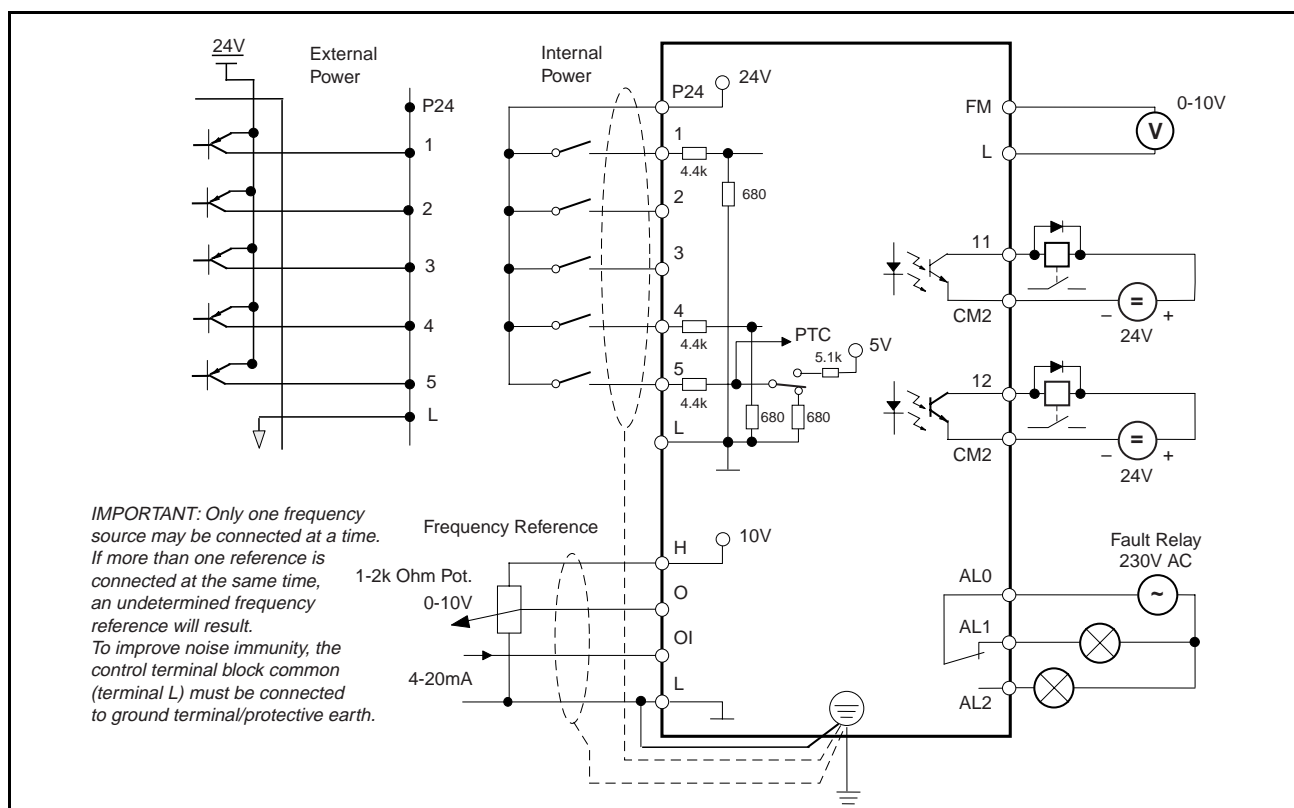

Figure 2.6 – Typical Control Terminal Connections
- If using transistor outputs 11 or 12 with an inductive load such as a relay, install a recovery diode parallel to the relay, as shown in figure 2.6, to prevent damage to the output.
Figure 2.6 shows typical control terminal connections.